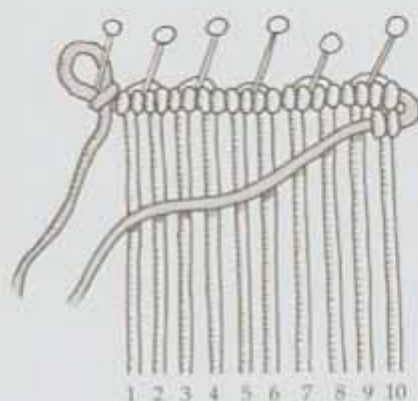
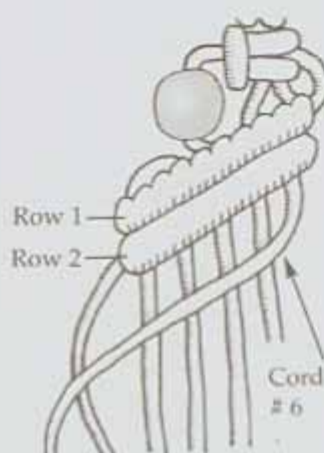

Fig. 22
Fig. 23
3. **Cord Numbering** - Most of the projects have directions that refer to the vertical hanging cords (also known as the **warp** cords) by number according to their sequence from left to right (see Figure 22). Cords can change sequence and therefore number from row to row. For example, in Figure 23, Cd#6 (the 6th cord from the left) in Row 2 is used as the **AC** for the following row, Row 3. After knotting the row, it will end up in the first position on the left and therefore become Cd#1 in Row 3.
4. **The Runner Cord** - In some of the projects (1, 2, 3, 7, & 8) there is a separate cord that "runs" back and forth through the rows of knotting (see Figure 22, the darker cord). This cord (or cords, if you are using more than one color) can serve alternately as an Anchor Cord (**AC**) when the pattern calls for a horizontal **DHH** or as a Knotting Cord (**KC**) when the pattern calls for a **VDHH**. The other projects (4, 5, 6, 9 & 10) do not have a separate Runner Cord but rather make use of one of the warp cords when an **AC** is needed (see Figure 23).